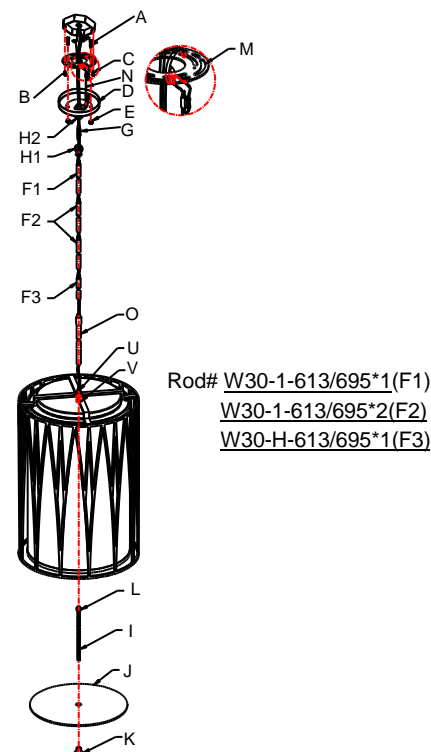

Fig. 2
### CONNECTING THE WIRES (Fig. 2)
9. At this point, connect the electrical wires as shown in fig.2, making sure that all wire connectors are secured. If your outlet has a ground wire (green or bare copper), connect the fixture's ground wire to it. Otherwise, connect the fixture's ground wire directly to the circular strap using the green screw provided.